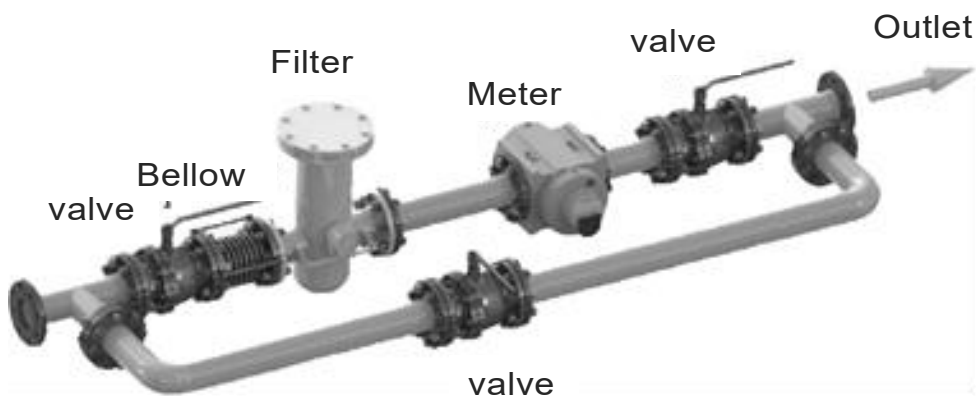

Figure 6 Horizontal installation
6.1.2 Horizontal installation (see Figure 6): When installed horizontally, the axis of the inlet and outlet of the meter should not be lower than the axis of the pipeline to prevent impurities in the gas from staying in the meter and affecting normal operation. At the same